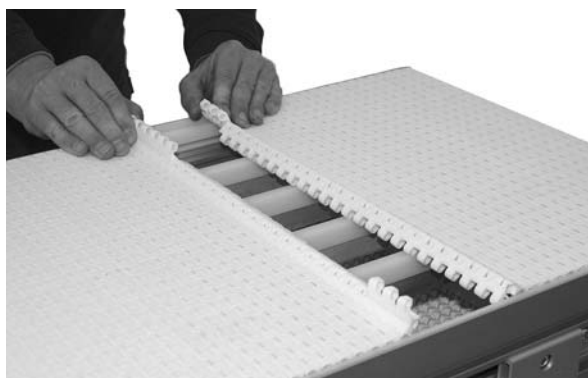

Figure 23
- Bring the ends of the belt together (Figure 23).